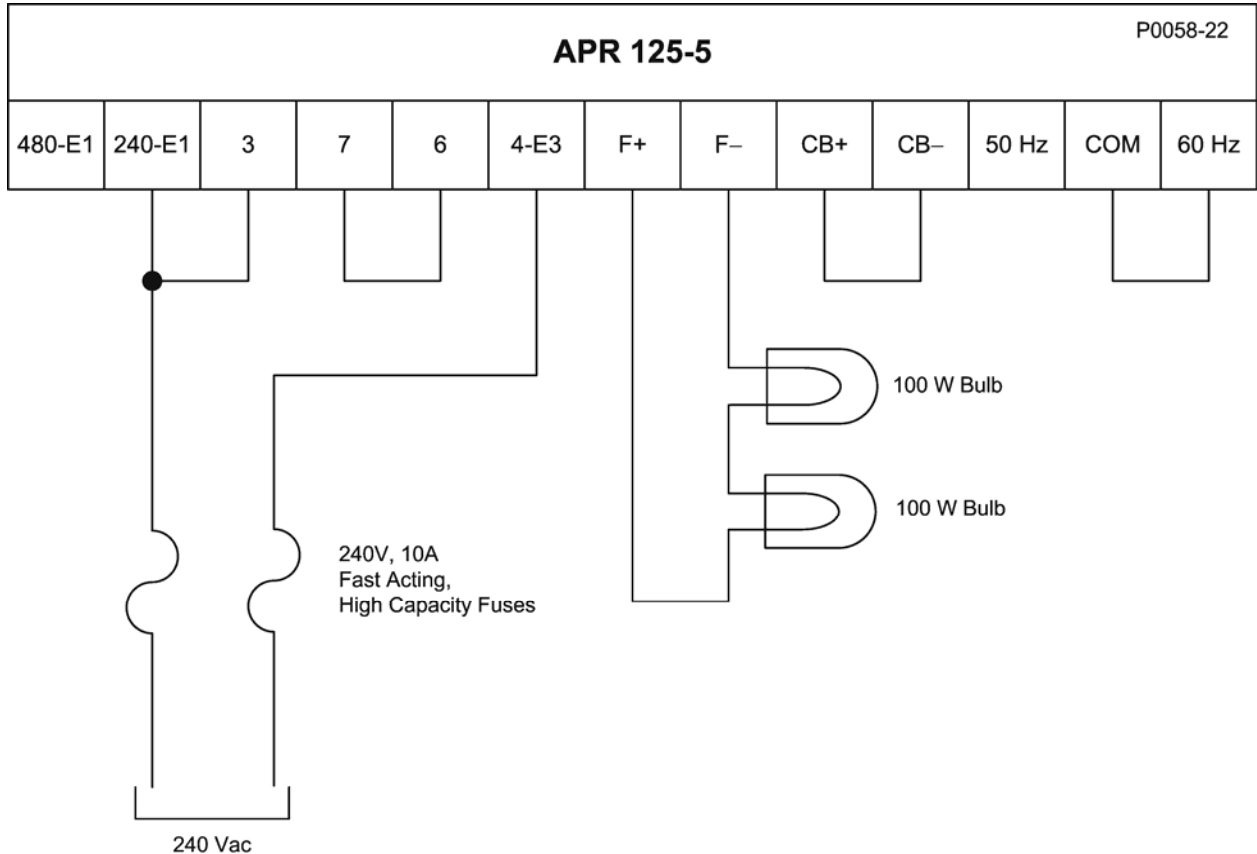

Figure 4-1. APR 125-5 Operational Test Setup
To perform an operational test of the APR 125-5, connect the regulator as shown in Figure 4-1 and perform the following steps.
1. Apply 240 Vac to the regulator as shown in Figure 4-1.